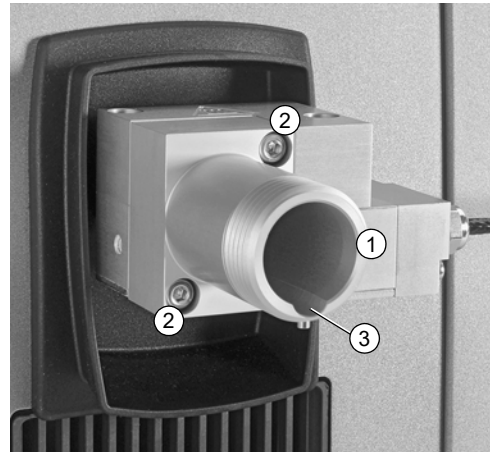

Fig. 5: Syringe holder attached
14. Mount the syringe holder (1, fig. 5) by fixing it with two screws M4x20 (2, fig. 5). Make sure that the groove (3, fig. 5) is below.